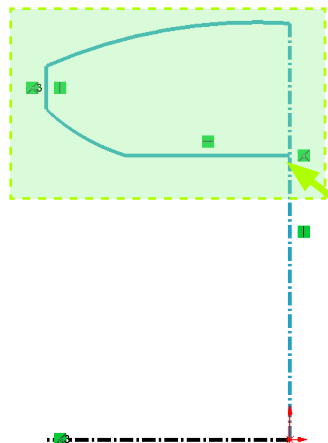

Fig. 5
Step 10. **Drag a selection to left** to select all but horizontal centerline, **Fig. 5**.